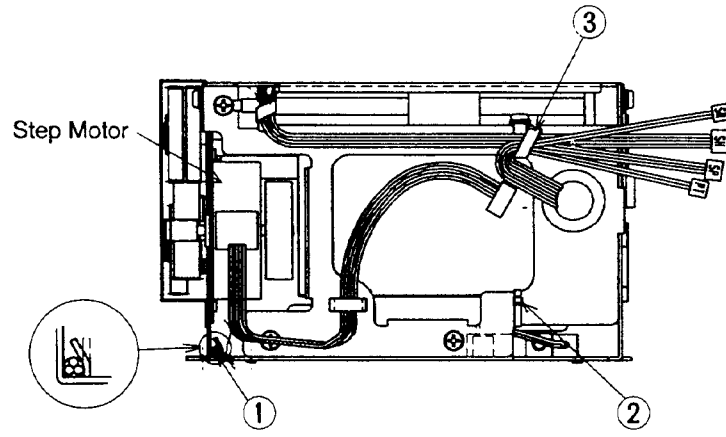

Fig. 13
5. Release 3 Clampers (①, ② and ③) shown in Fig. 13 and remove the SP Sensor Unit.